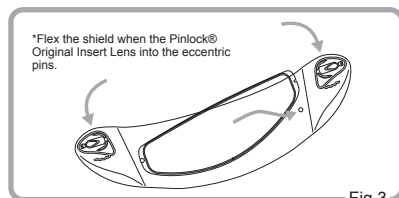

Fig.3
2. Flex the shield carefully until the shield becomes flat. Then, click the other side of the Pinlock® Original Insert Lens into the eccentric pins and then allow the shield to return carefully to its original curved shape. Make sure the Pinlock® Original Insert Lens to be fit inside the chase (Fig. 3,4 and 5). (Follow 3 on next page)